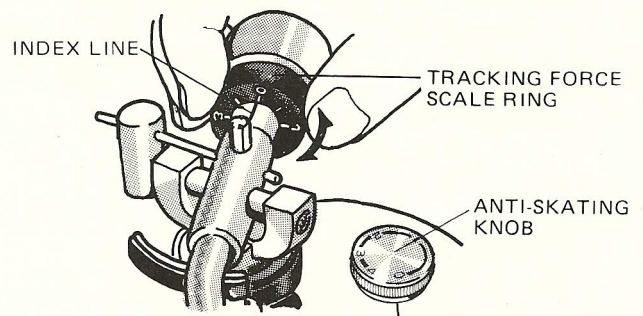

Fig. 10
1. Set the anti-skating knob [ANTI-SKATE] to "0" (Fig. 10).
8. Since the tracking force is zero when the tonearm is balanced level, turn just the tracking force scale ring in front of the counterweight, and set the "0" on the scale to the index line on the shaft (Fig. 10).